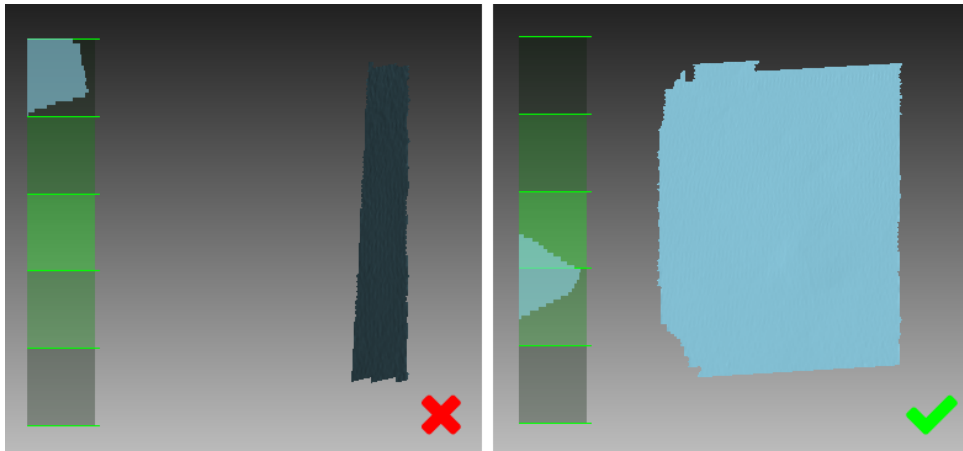

Figure 5.2.: Scanner orientation and reconstructed surfaces.
- Maintain the scanner orientation in such a way that the field of view is sufficiently filled with surfaces (see Figure 5.2.)